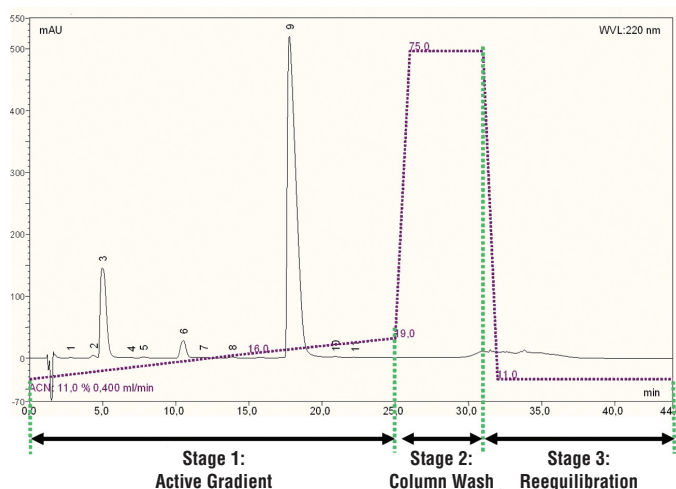

Figure 2. Gradient analysis for a pharmaceutical quality control laboratory.
With column switching, it is possible to increase sample throughput by taking some of the chromatography steps off-line. We can see this by focusing on the different phases of a normal gradient run (Figure 2).
A typical pharmaceutical quality control gradient analysis run illustrates how sample throughput can be increased by using tandem operation. Figure 2 shows the chromatogram and the associated single column approach gradient profile.
In Figure 2, the chromatogram shows that the run time is 44 min, but that all peaks of interest elute during the active gradient, which ends after 25 min. By adopting a switching method that switches to the second column after 25 min (and adding a 1 min wash step to return the mobile phase to the starting conditions), the run time can be shortened to 26 min.
- In many cases, sample throughput can be increased significantly. In the example shown in Figure 2, throughput was increased by 69%.